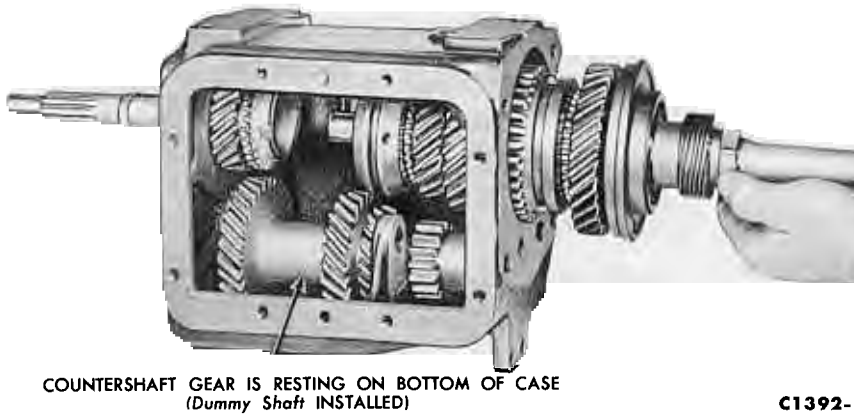

FIG. 6—Removing or Installing Output Shaft
8. Remove the output shaft assembly from the rear of the case (Fig. 6).